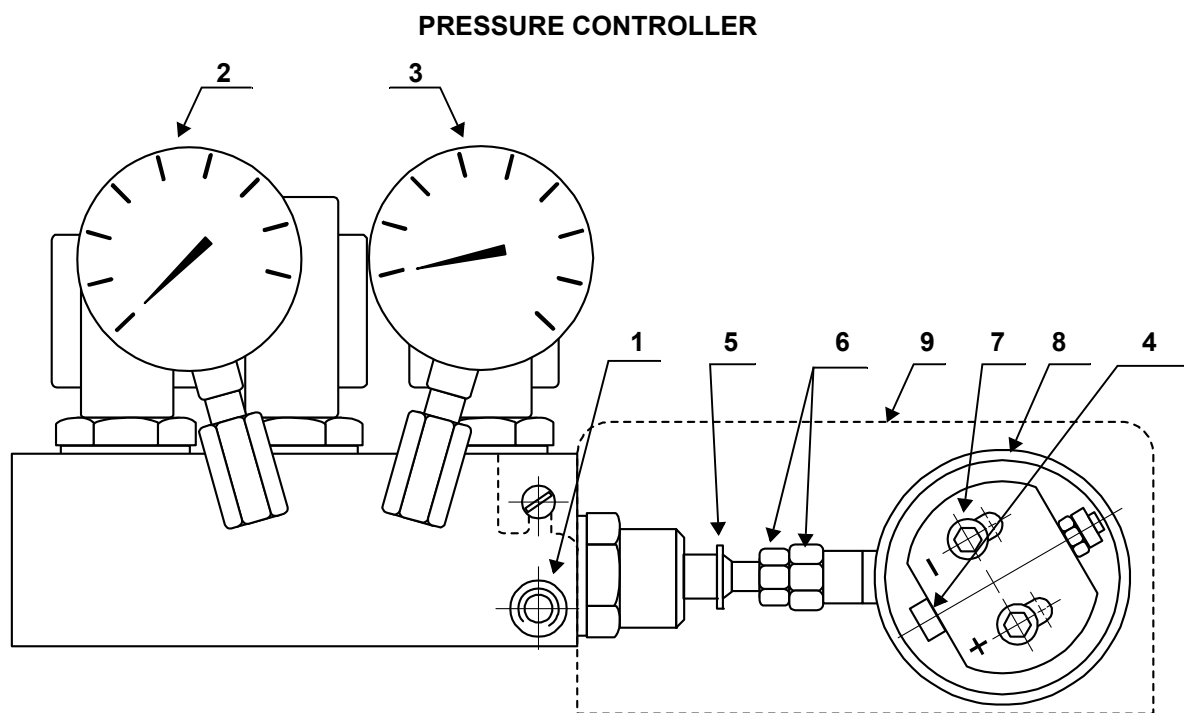

Fig. 3
The variation of the pressure in the return line (manometer 3 fig. 3) modifies the fuel delivery from the nozzle.
- Turn manually and slowly the cam with adjustable profil 1) fig.5 firmly connected to the eccentric 8) fig.3 and check the pressure variation by the manometer 3) fig.3.
The fine adjustment of the pressure in the return line could be carried out by changing the setting of the eccentric 8) fig.3, of the nut and lock-nut 6) fig.3.
The stroke of the combustion head is contemporaneous to the eccentric (8) fig. 3 movement and to that of the cam with adjustable profil (1) fig. 5. The combustion head position is noticed on the graduated cylinder (2) fig. 4.